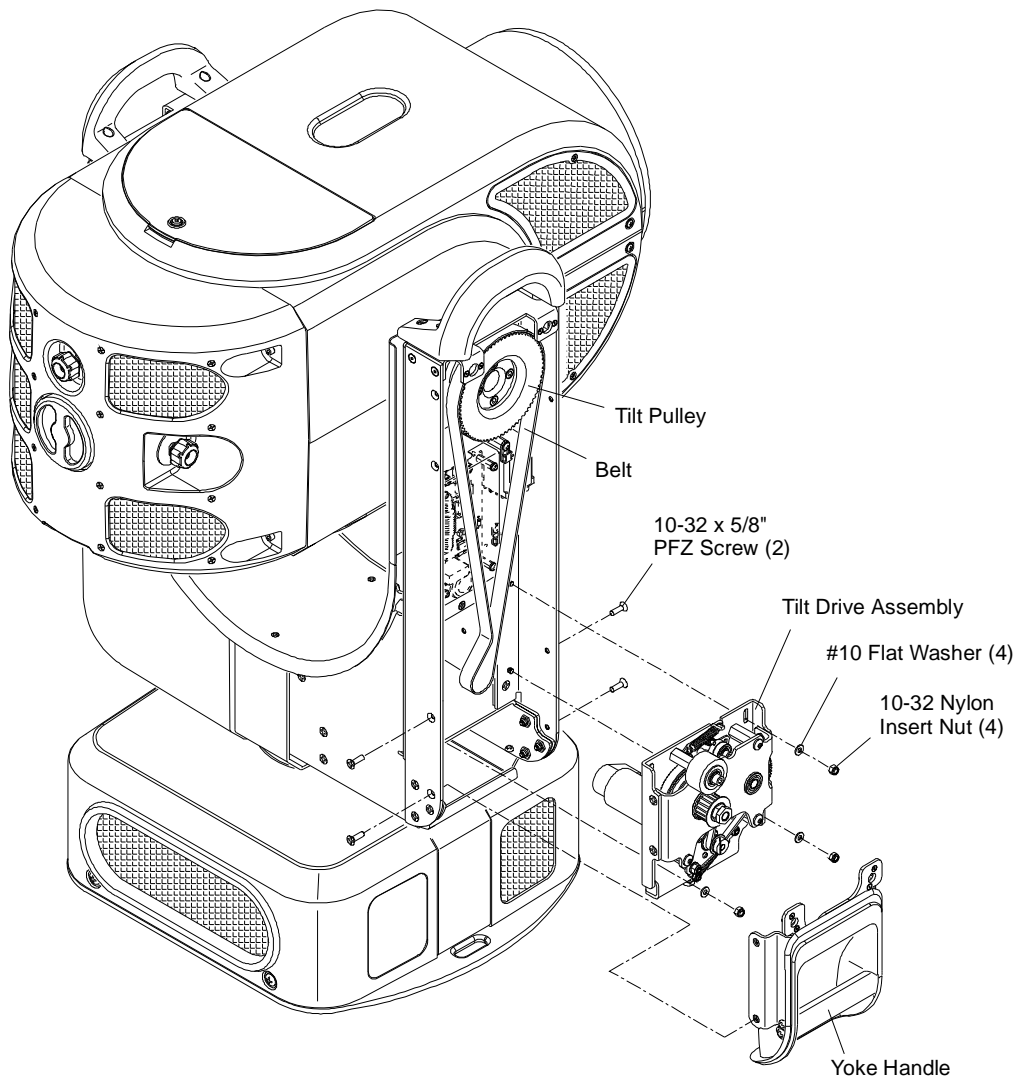

Figure 3-42: Removing Tilt Drive Assembly
- Step 3. At Tilt-Side Yoke Leg, remove Yoke Handle by removing two 10-32 x 5/8" PFZ screws (**Figure 3-42**).
- Step 6. At Tilt Drive Assembly, loosen (but do not completely remove) four 10-32 nylon insert nuts (**Figure 3-42**). This will begin to loosen the belt.